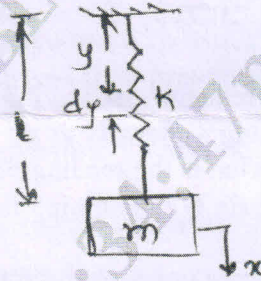

Fig.Q2(a)
- 2 a. Determine the natural frequency of the spring mass system as shown in Fig.Q2(a). Take mass of the spring into account, use energy method.